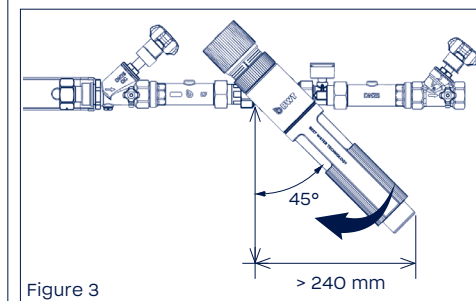

Figure 3
3. Position the filter at a 45° angle as shown in Figure 3.